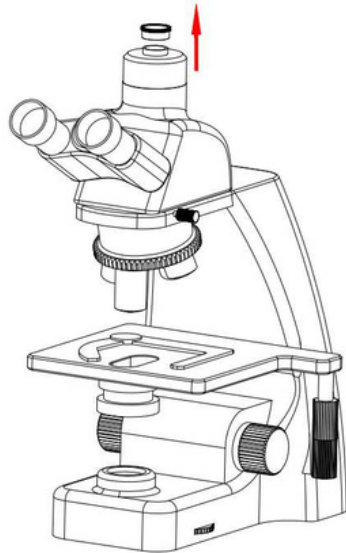

Figure 1
1. Screw out the dust cover of C-mount of the trinocular KoPa scope, as shown in figure 1